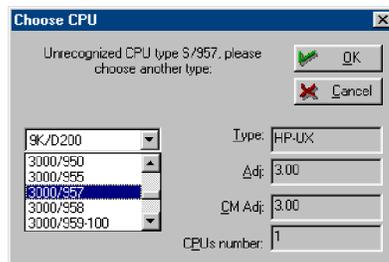

Figure 8.4 Choose CPU dialog box
- 4 Click **Open** to load the collection file. If naming conventions between the host system and the PC differ, the **Choose CPU** dialog box will appear (see Figure 8.4).